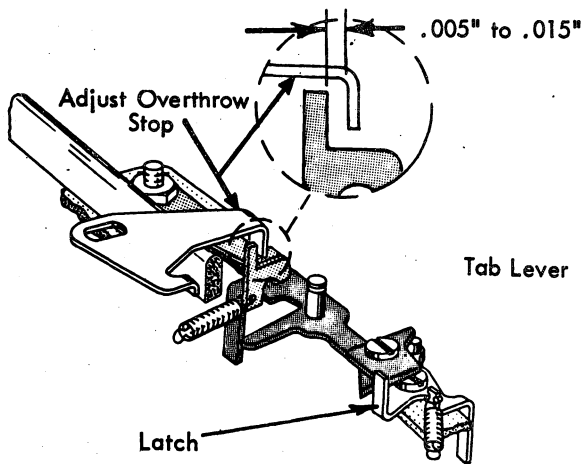

FIGURE 242.6 Tab Lever Overthrow Stop (Early)
10. Tab Lever Overthrow Stop (Fig. 242.6) - Adjust forward or back so that $.005''$ to $.015''$ clearance exists between the lug of the tab lever and the overthrow stop when the tab lever is latched to the rear.